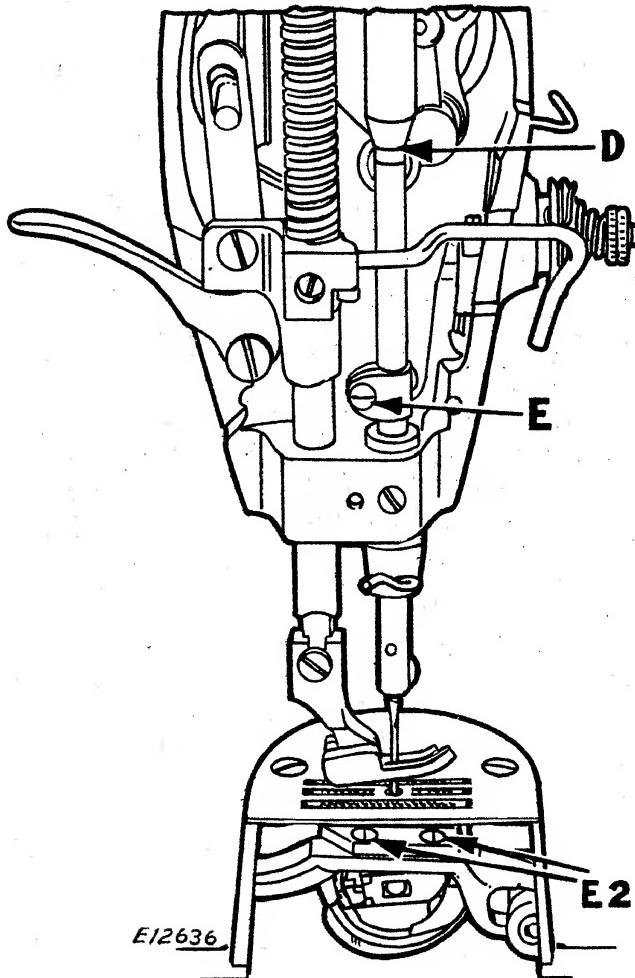

Fig.20
The needle bar, which is in the machine when shipped from the factory, has two timing marks near its upper end. Rotate the balance wheel until the needle bar moves down to its lowest position. The UPPER TIMING MARK on the needle bar should then be centered with the lower end of the needle bar bushing, as shown at (D) in Fig. 20. In case the needle bar is not set at the correct height, loosen screw (E, Fig. 20) and move the needle bar up or down until the UPPER TIMING MARK is centered with the lower end of the needle bar bushing, as shown at (D, Fig. 20), then securely tighten screw (E).
Remove presser foot, slide plate, throat plate and bobbin case. Take out the two screws (E2, Fig.20) and remove feed dog.